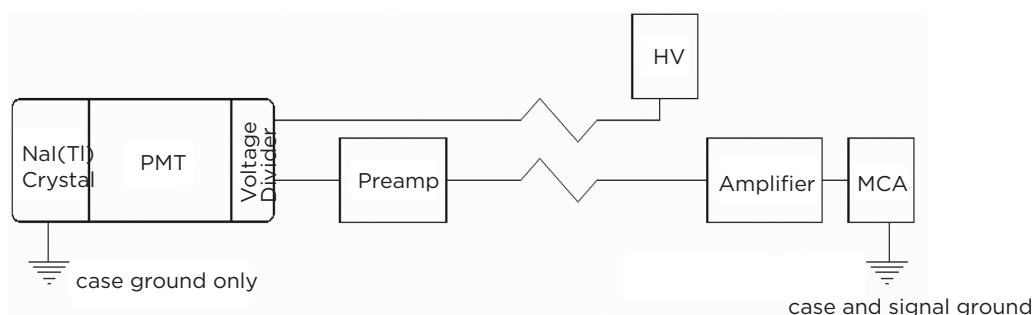

Figure 4. Ground Loop
The block diagram (*Figure 4*) shows the normal ground configuration in a system with a sensor or probe at some distance from the readout electronics:
- 1) The signal ground is connected to the earth ground at the readout end of the system only. The HV, amplifier and MCA grounds are all connected through the power plugs to a local ground. See *Figure 4*.